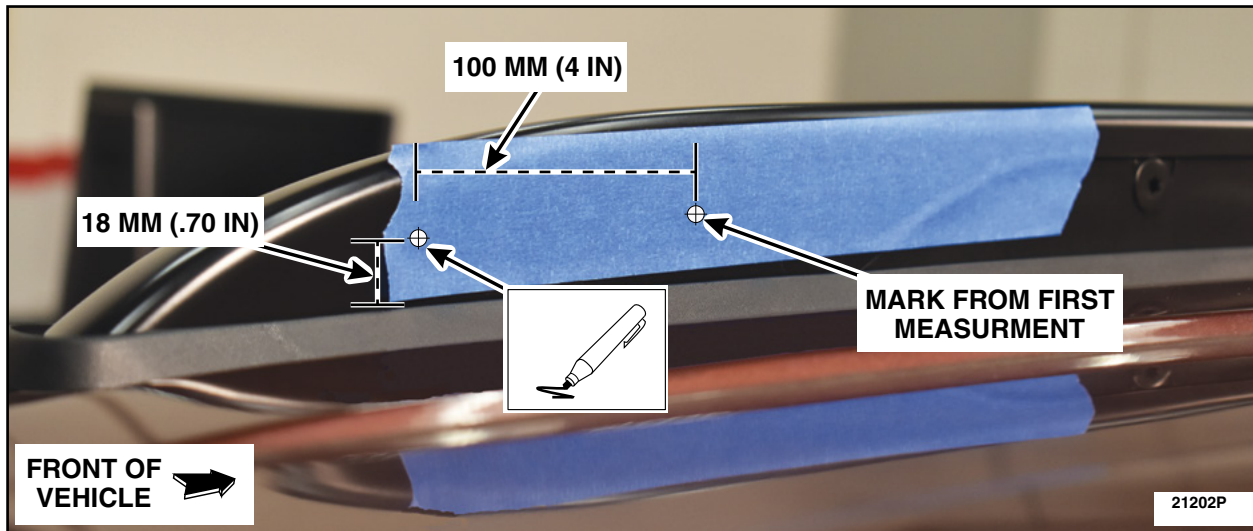

FIGURE 14
3. From the first mark, measure 100 mm (4 in) towards the rear of the vehicle and up 18 mm (.70 in) from the top of the roof rack base. Mark the measurement on the tape. See Figure 14.